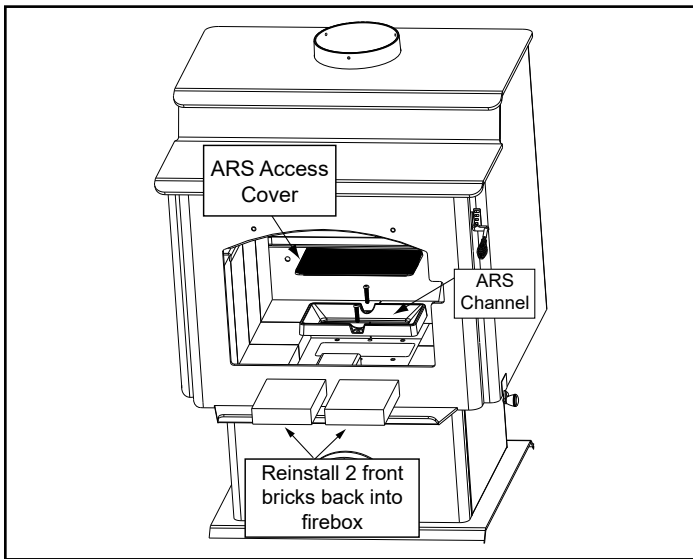

Figure 23.2
1. Replace front bricks that were removed in step 1 of Begin installing the ARS System on **page 21** (**Figure 23.2 on page 23**).
3. Install ARS access cover inside of ARS Channel that is located inside the firebox (**Figure 23.2 on page 23**).